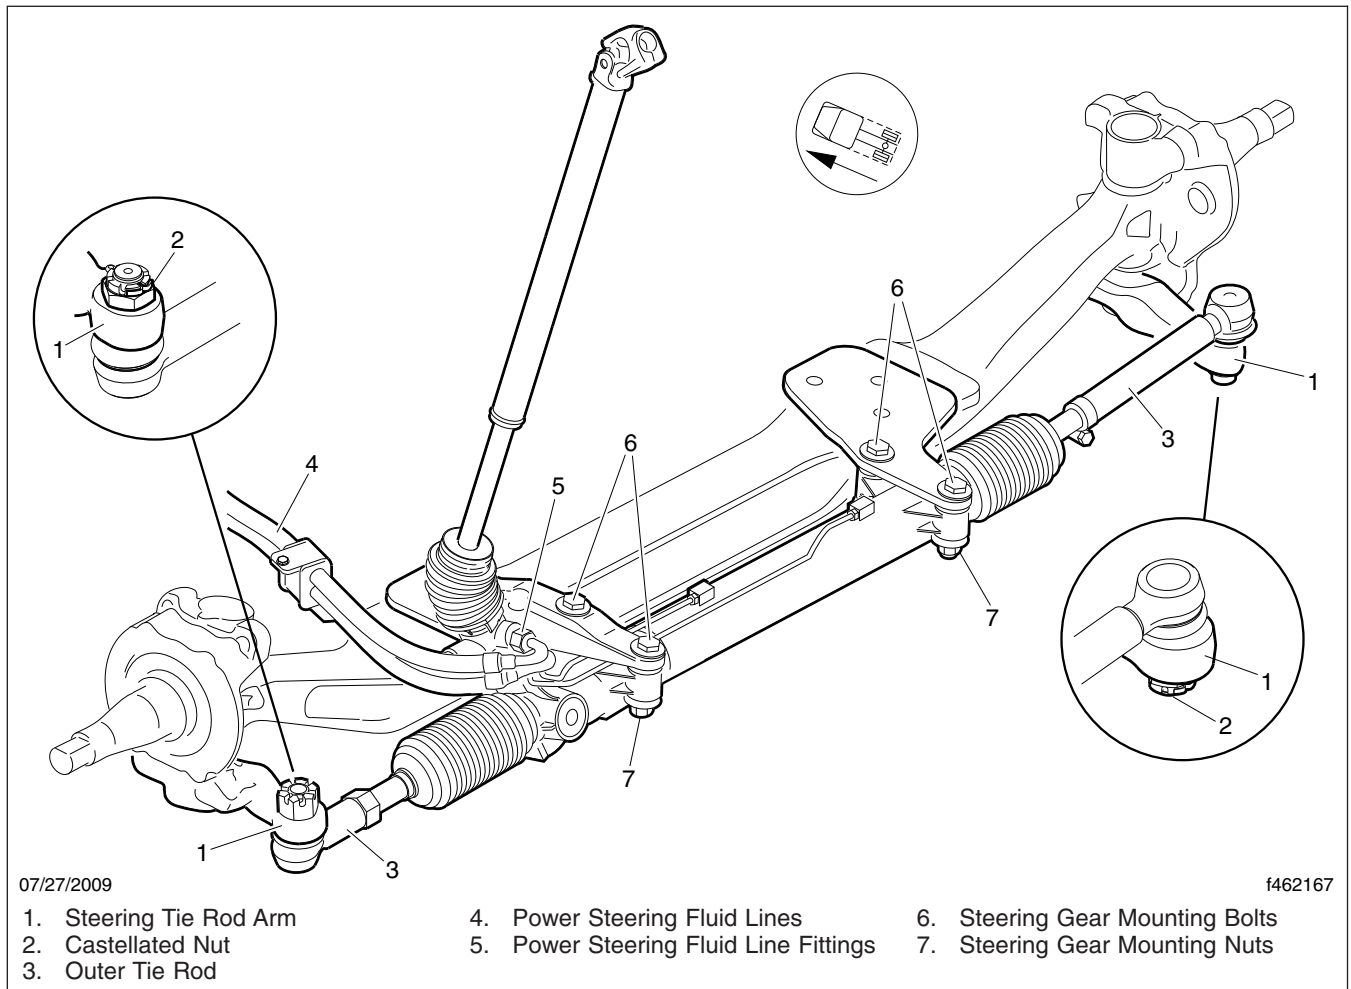

Fig. 21.17, Rack and Pinion Steering Gear Assembly
- 6.1 Inspect tie rods, steering arms, and the drag link for signs of looseness (i.e., shiny spots or rust tracks). See Fig. 21.17 for a